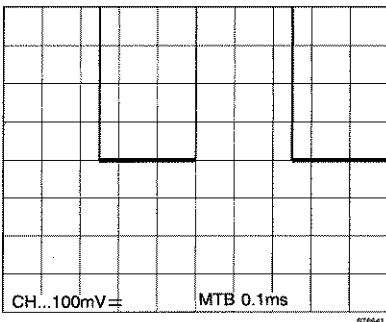
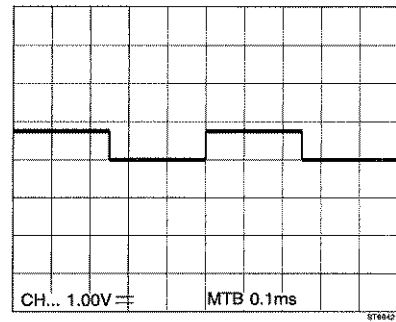

Figure 3.4
Figure 3.5
- Verify that this results in an upward signal shift. Fig. 3.4 shows this for channels with 100mV input sensitivity: the shift is 3 divisions. Fig. 3.5 shows this for channels with 1.00 V input sensitivity: the shift is 0.3 divisions..